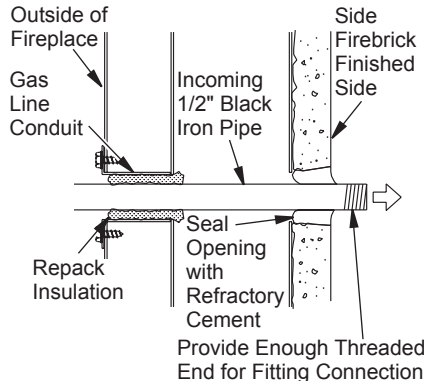

Figure 19 - Gas Line Installation
3. Run a 1/2" black iron gas line into fireplace through the rear at gas line conduit sleeve (if using a raised platform, add height). Provide sufficient gas line into fireplace chamber for fitting connection (see Figure 19). *Note: Secure incoming gas line to wood framing to provide rigidity for threaded end.*